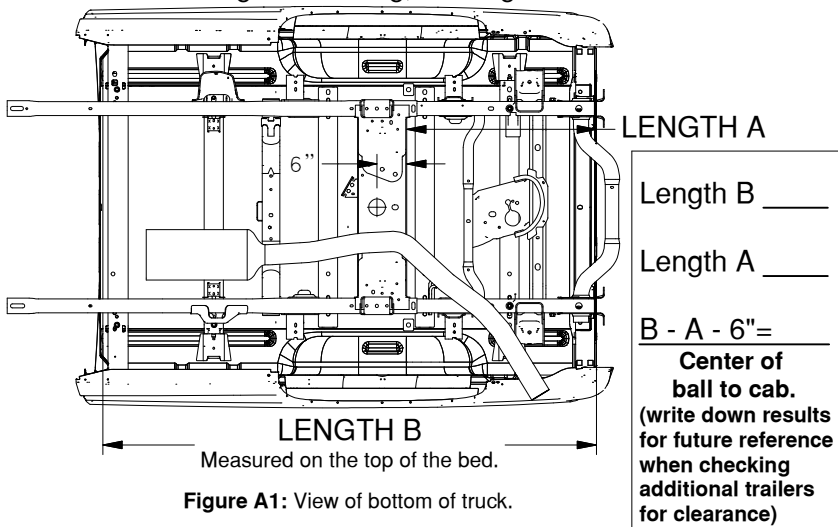
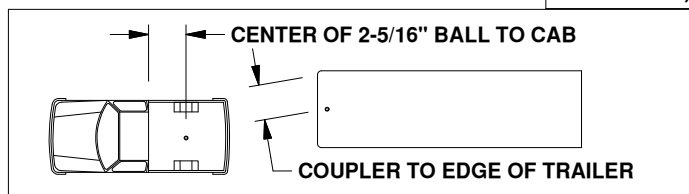

Figure A1: View of bottom of truck.
Figure A2: Truck and trailer diagram
1. **Determine cab clearance:** Under the truck bed, measure from the rear most edge of the C-channel frame cross member (over the axle) to the end of the bed, see Figure A1, Length A. Next, inside the bed, measure the length of the bed from the rear edge to the front, see Figure A1, Length B. Subtract the cross member measurement (length A) from the bed measurement (Length B). Then subtract an additional 6 inches. This will give you the amount of clearance you have between the 2-5/16" ball location and the cab. Measure the distance from the center of the coupler to the farthest forward corner point of the trailer. Compare this distance to the measurement from the center of the ball to the cab. These measurements will allow you to see how much clearance you will have between the cab and the trailer while towing and turning, see Figure A2.